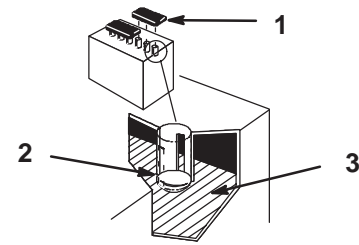

Figure 63
- Open covers to see into the cells. The electrolyte must be up to the lower part of the tube (Fig. 63). Do not allow the electrolyte to get below the plates (Fig. 63).
- Lift off the filler caps (Fig. 63).
- Slowly pour distilled water into each battery cell until the level is up to the lower part of the tube (Fig. 63).